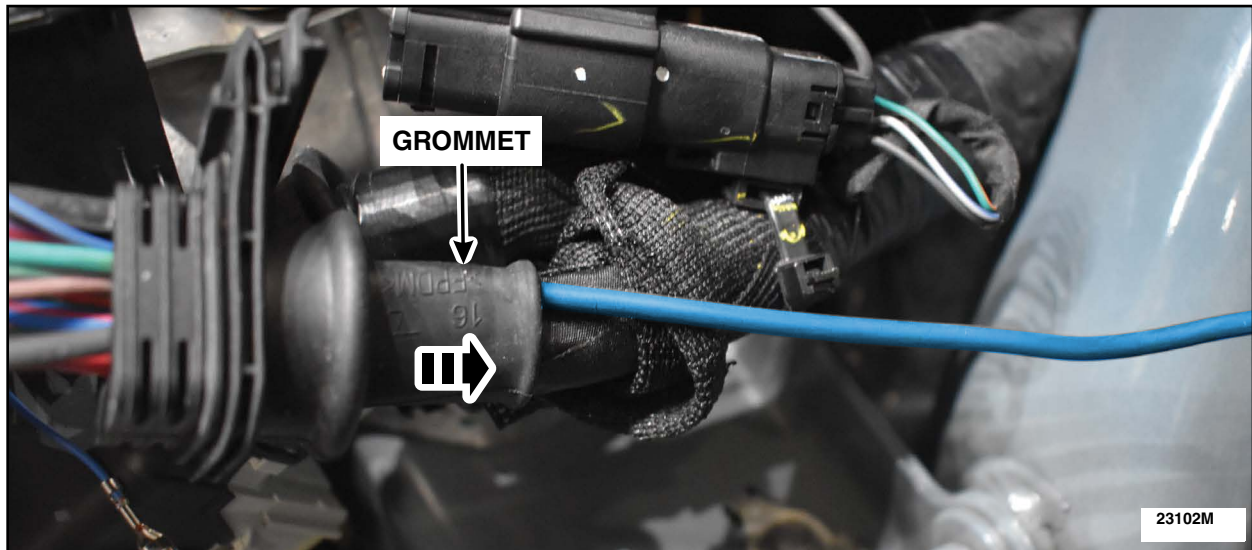

FIGURE 11
13. Following the wire bundle, pass the new circuit through the grommet carefully. The new terminal must be positioned under the gray lever. See Figure 11.